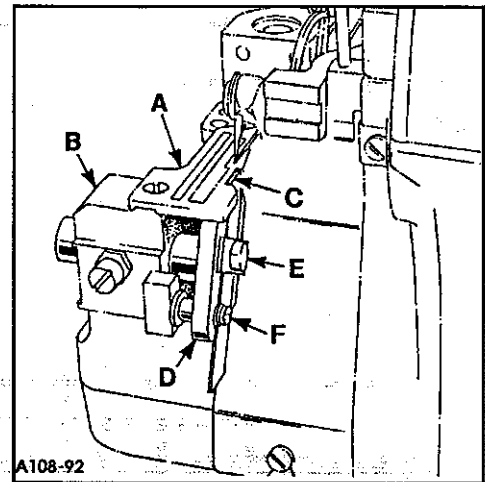

Fig. 9
Attach throat plate (A, Fig. 9) to support block (B). Assemble lower knife (C) to lower knife holder (D) and insert in lower knife support block (B). The cutting edge of lower knife (C) should be flush with and parallel to the throat plate surface. Loosen screw (E) and move the lower knife up or down until it is flush with the throat plate surface. Tighten screw (E).